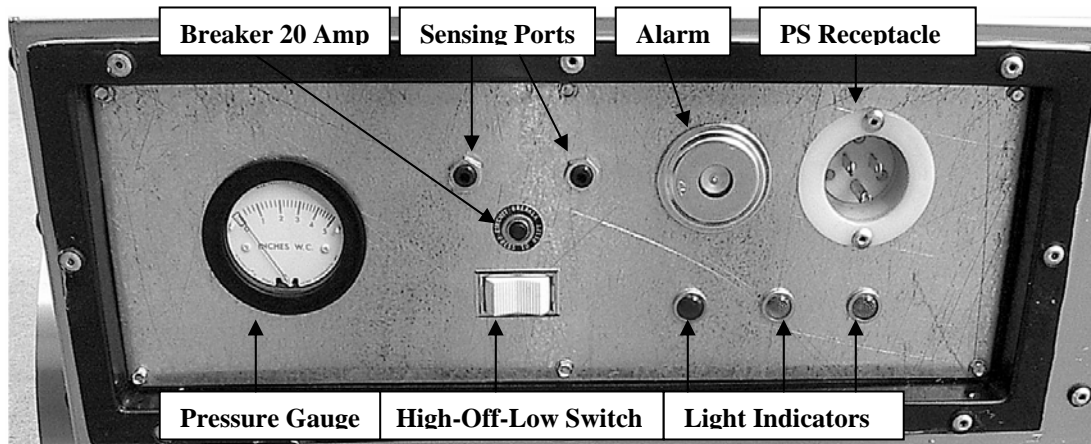
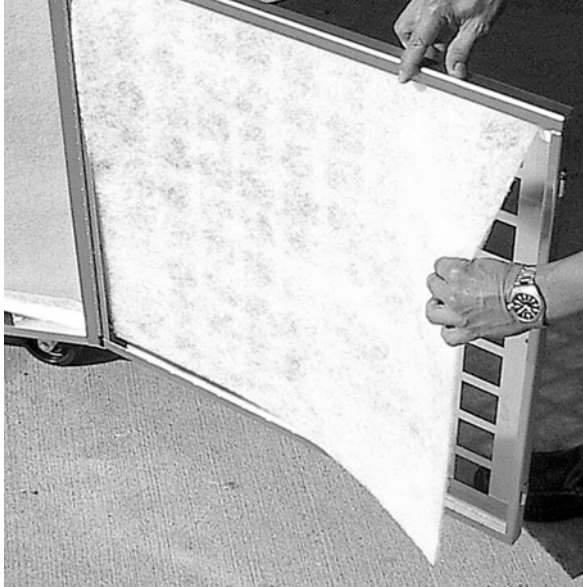
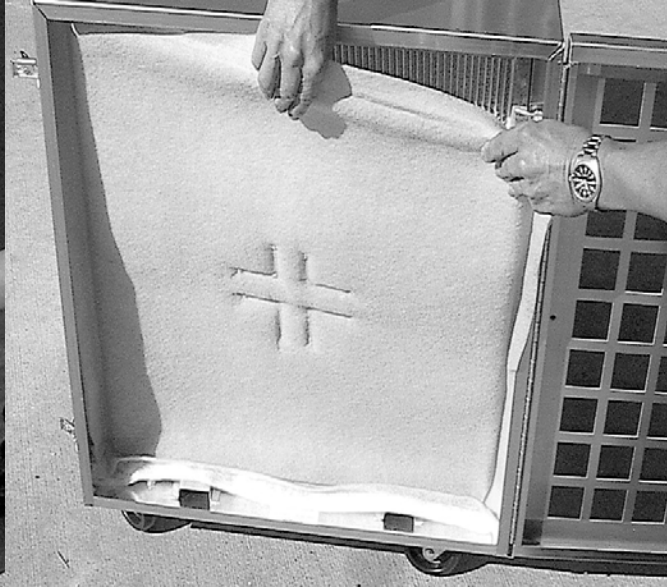

Fig. 1 Control Panel
Fig. 2 Pre-filter Pad
Fig. 3 Ring Panel Filter
- 3.6.2 The main switch is located in the control panel (see fig. 1) and is a three position switch (High-Off-Low). Push the switch to the right to operate in low speed or to the left to operate in high speed, the middle position is off.
4.1.3 Removes large particles up to 10 microns and larger from the air flowing through the unit, thereby preventing premature loading of the second stage and HEPA filters. The pre-filter pad (see fig 2) is recommended to be changed as it becomes loaded and the airflow capacity of the unit decreases, or the pressure gauge at the control panel exceed 2.6 inches at high speed or 1.9 inches at low speed, of W.C. (see fig 1).
4.2.3 Removes particles up to 1 micron and larger from the air flowing through the unit, thereby protecting the more expensive, HEPA filter. The ring panel filter (see fig 3) is recommended to be changed as it becomes loaded and the airflow capacity of the unit decreases, or the pressure gauge at the control panel exceed 2.6 inches on high speed or 1.9 inches on low speed, of W.C. (see fig 1).
4.3.3 Removes smaller contaminated particles up to 0.3 micron from the air flowing through the unit and has an efficiency rating of 99.97%. The HEPA filter (see fig 4) is recommended to be changed as it becomes loaded and the airflow capacity of the unit decreases, or the pressure gauge at the control panel exceed 2.6 inches on high speed or 1.9 inches on low speed, of W.C. (see fig 1). Or every 700 hours per agency recommendations.